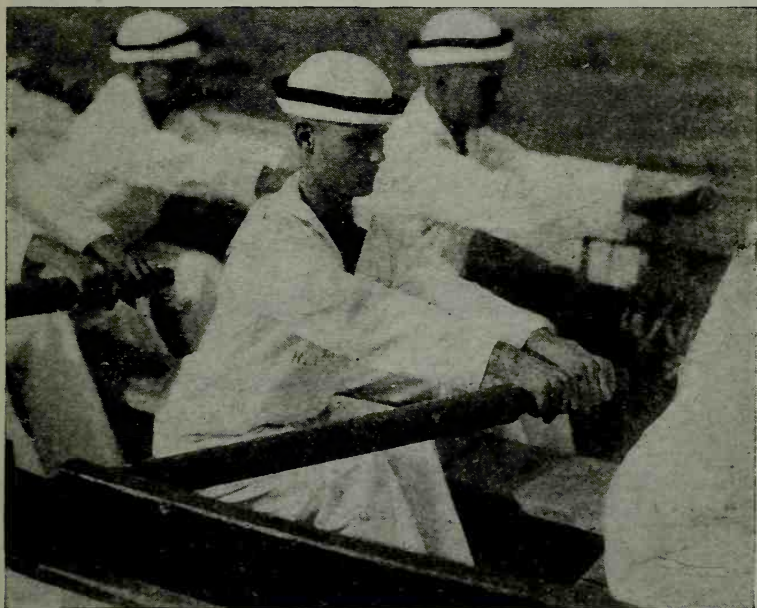

FIG. 11-1—Position No. 2, *Stand by to give way.*
**Position No. 2.**—This is the position at *Stand by to give way* or the beginning of the stroke. (Fig. 11-1.) The man leans well forward, arms out straight, wrists straight, eyes directly astern, the blade of the oar